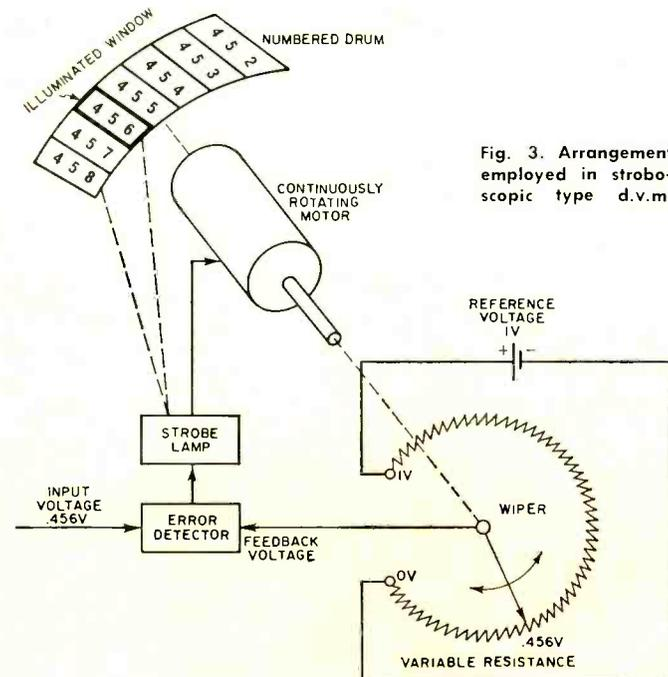

Fig. 3. Arrangement employed in stroboscopic type d.v.m.
**Stroboscopic Type.** The stroboscopic-type meter generates a ramp voltage by continuously rotating the wiper of a d.c. reference voltage (Fig. 3). The ramp voltage is compared continuously to the input signal and each time the two voltages are equal, a lamp is flashed to illuminate a numbered drum coupled to the shaft of the rotating potentiometer. The numbers aligned with the small window in front of the drum are made visible by the flashing lamp at the time of voltage equality. Drum speed is high enough (1500 r/min, on the average) to produce numbers which appear to be stationary.